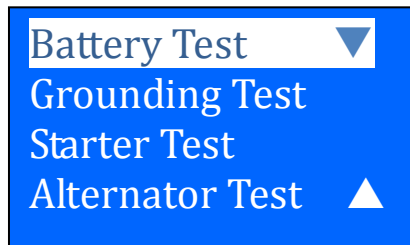

Figure 50
4. After you have made your choice, selecting either "New: Clear Memory" or "Continue...Test" will proceed to the display below: (Fig. 50)